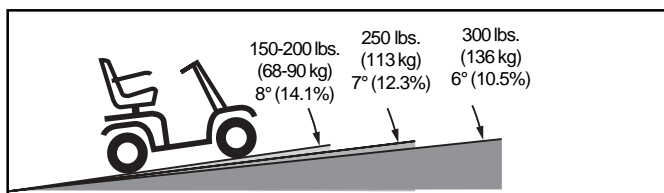

Figure 1. 3-wheel Maximum Recommended Incline Angles
**WARNING!** Even though your scooter is capable of climbing slopes greater than those illustrated in figure 1, do not, under any circumstances, exceed the incline guidelines or any other specifications presented in this manual. Doing so could cause instability in your scooter.
Handicap public access ramps are not subject to government regulation in all countries, and therefore do not necessarily share the same standard percent of slope. Other inclines may be natural or, if man-made, not designed specifically for scooters. Figures 1, 1A, and 1B illustrate your scooter's stability and its ability to climb grades under various weight loads and under controlled testing conditions.
**WARNING!** Any attempt to climb or descend a slope steeper than what is shown in figures 1, 1A, and 1B may put your scooter in an unstable position and cause it to tip.